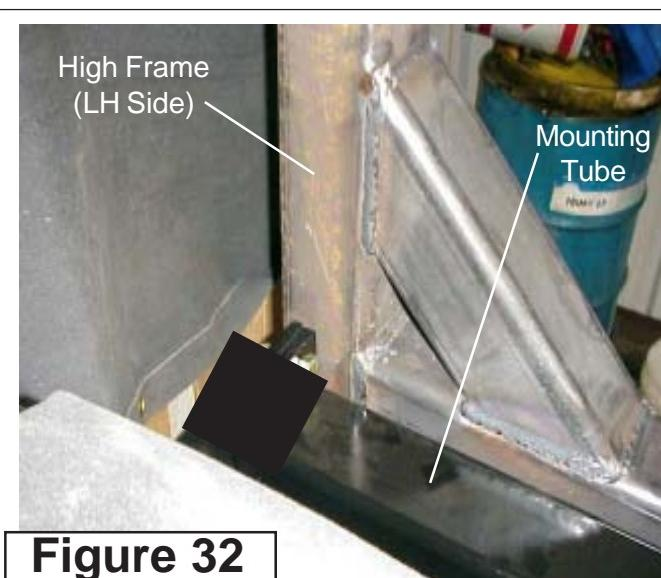
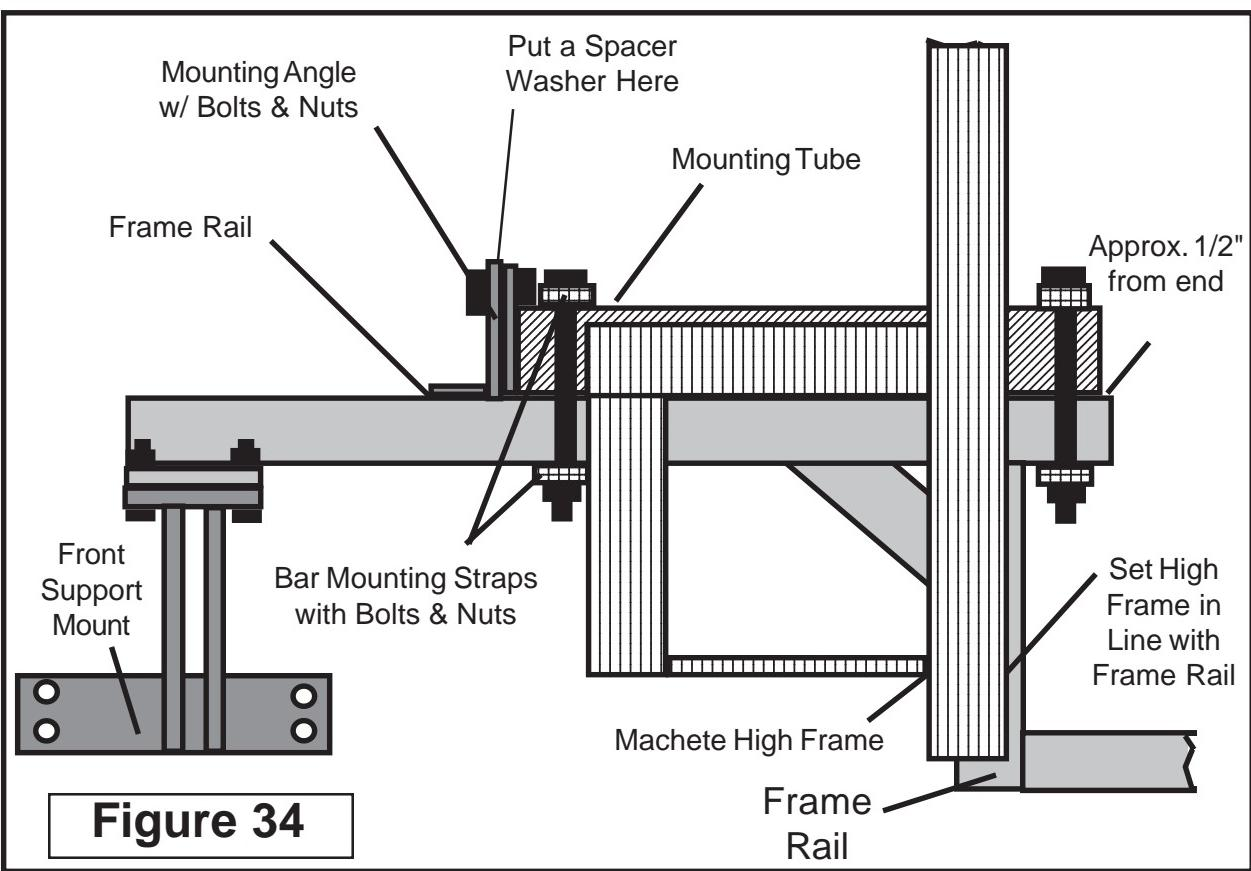

Figure 32
Figure 34
9. Install Mounting Tubes. Loosely bolt the Front Angle Mount end of Mounting Tube (**See Figure 32**). Slide 1 Mounting Tube in on top of the Frame Rail on each side, the end that has the Angle Mount bolted to it goes to the Front away from the Tractor Cab. The mounting Tube should be slid back till the end of mounting tube is about 1/2" from the end of the Frame Rail. (**See Figure 34**). Do Not Tack Weld any components at this time. Note: in figure 32 note the location of High Frame Tube Height as compared to Mounting Tube Height, this is the way that it will appear as looking over the Hood of the Tractor toward LH Side.
1. Tack Weld Frame Rails to Front Mounting Pads. Check to make sure that the Frame rail is still aligned on front rail Mounting Pad, Frame Rail should not interfere with the Mounting Pad bolt heads. Check the LH and RH Frame rail (**See Figure 35**). If alignment is correct Tack Weld the Frame Rails to the Front Rail Mounting Pads. (**See Figure 32**). When tack Welding use 4 good tack welds per Frame rail, 2 on each side of Tube. (**See Figure 37**). The C- Clamp on The Frame Rail Tube at the mounting pad can be left on till later.